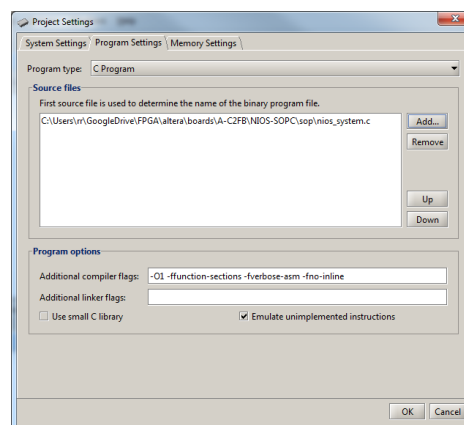

Figure 27. Too easy!
2. Select your C source file (Figure 27).